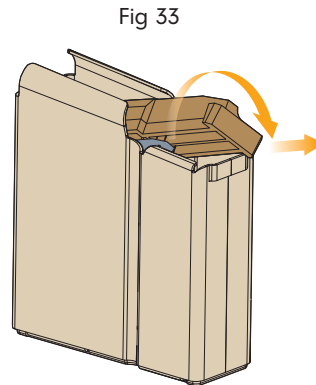

Fig 33
- Hold the front of the magazine platform/spring assembly with the other hand and twist the platform clockwise through approximately 45 degrees as shown in Fig 33 below.